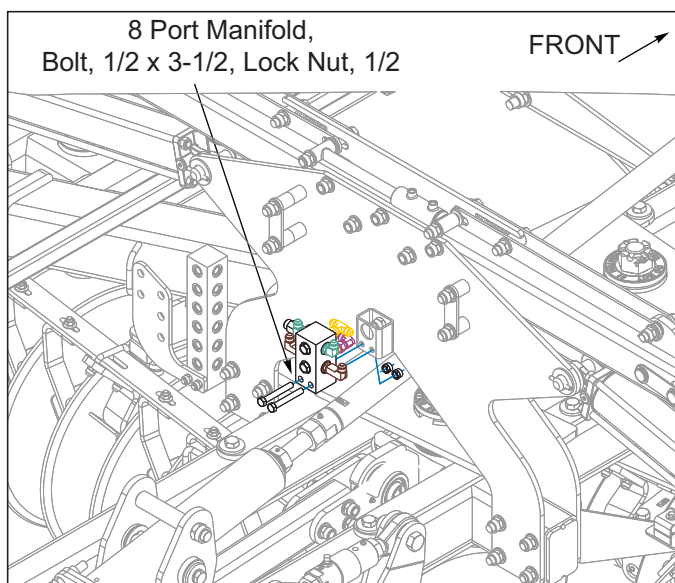

Figure 3-11: 8 Port Manifold 7531-32'-35'
6. Models 7531-32'-35' install the 8 port manifold, bulkhead mount in position shown, **See Figure 3-11**, using 1/2 x 4 bolts and 1/2 lock nuts.